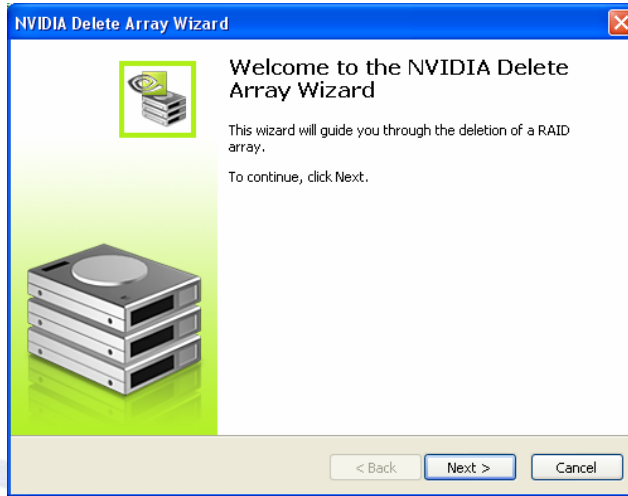

Figure 9. Delete Array Wizard
1. Select Delete array from the Storage Control Panel. This brings up the Delete Array Wizard, as shown in Figure 9.